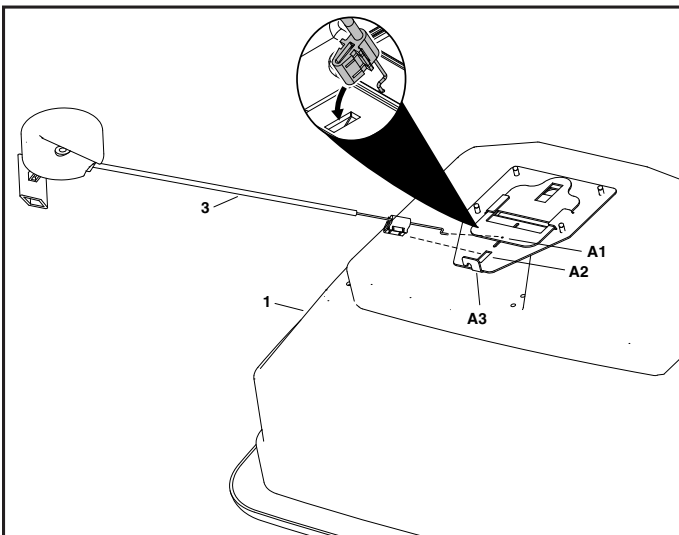

FIGURE 12
STEP 12: (SEE FIGURE 12)
- Attach the control cable (3) to the hopper (1) by inserting the end of the cable through the hole in the flow plate (A1) and pressing the plastic anchor firmly into the slot on the guide plate (A2) until it locks into place. Then place the cable into the cable guide (A3) on the guide plate (A2).